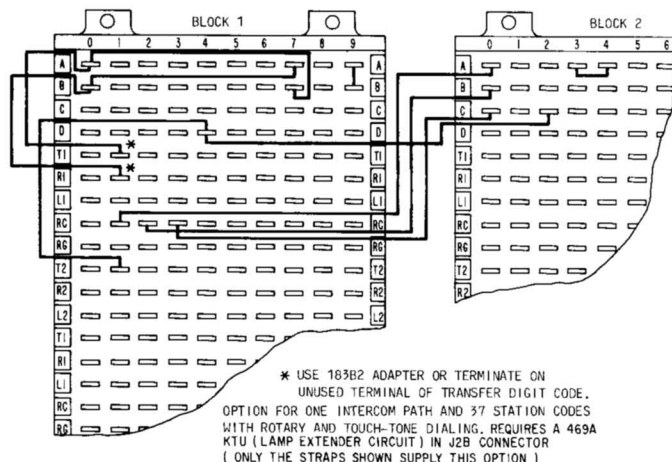

Fig. 10—Y Option
4.06 The Y option (Fig. 10) provides for one intercom path with 37 station codes. Stations can utilize both rotary and TOUCH-TONE dialing. Digits 1, 2, and 3 are used as transfer digits and are not available for station codes. Option G must